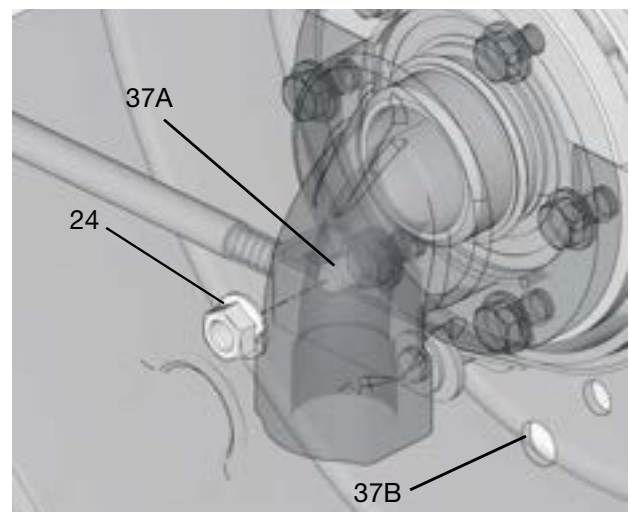

FIG. 31: 37A shows the new location of anchor pin (37). 37B shows the previous location of anchor pin (37).
16. Install anchor pin (37) to frame (FIG. 31). Reinstall nut (24) over anchor pin (37) and tighten securely (FIG. 31).